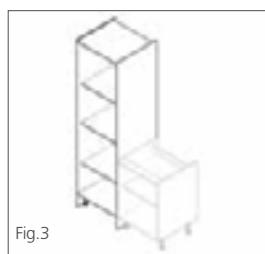

Fig.3
- For replacement cabinet ends to both left and right hand sides of a unit add **G2**. For example LU56 **G2** (see Fig.3)